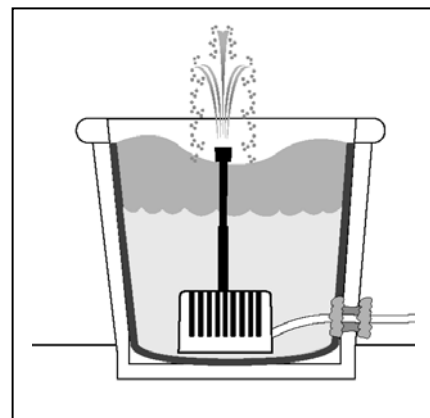

Fig. 9
9. Test fit the assembled container fountain kit in the container. Fill the container with water, 2/3 up to the top. Fig. 9